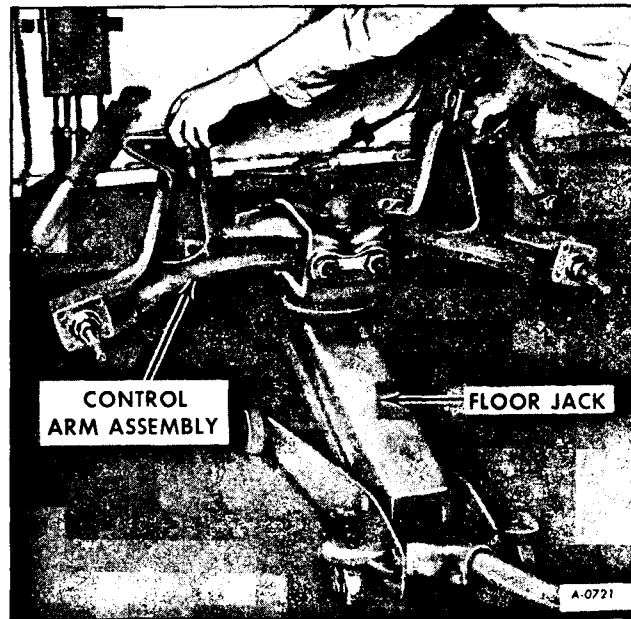

Figure 17—Lowering Control Arm Assembly from Vehicle
11. Lower rear suspension unit to floor as shown in Figure 17.